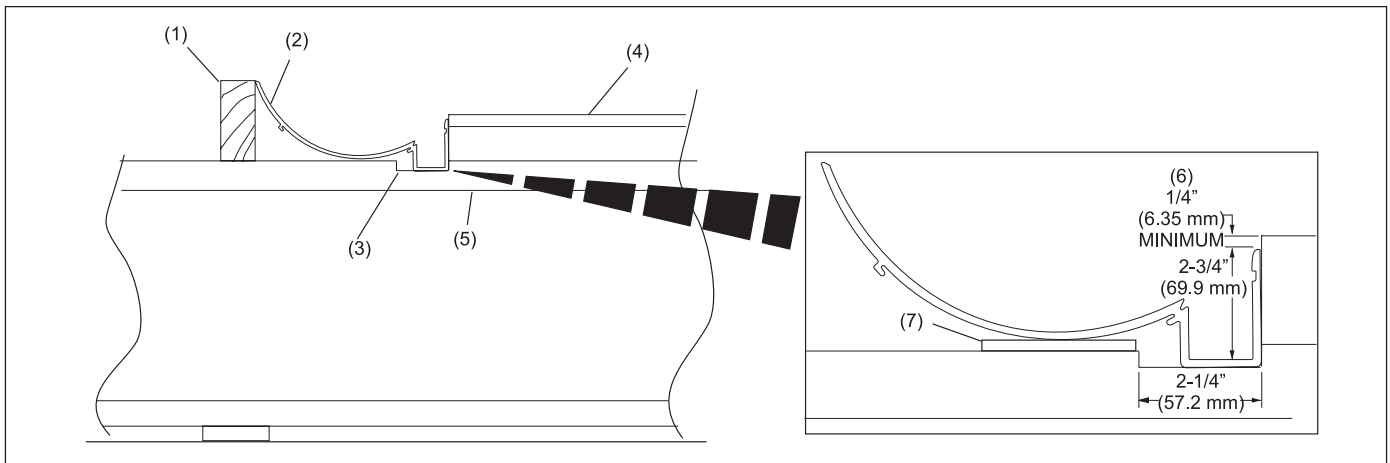

Figure 4. Route Top of I-Joist
1. Using a router or suitable tool, remove I-joist surface area as needed to maintain a 1/4" (6.3 mm) minimum distance between the top of the gutter and the lane surface. Refer to *Figure 4*.
2. At the division capping support, it may be necessary to either shim (up) or remove (plane down) the surface area where the new gutters will be mounting. Refer to *Figure 4*.